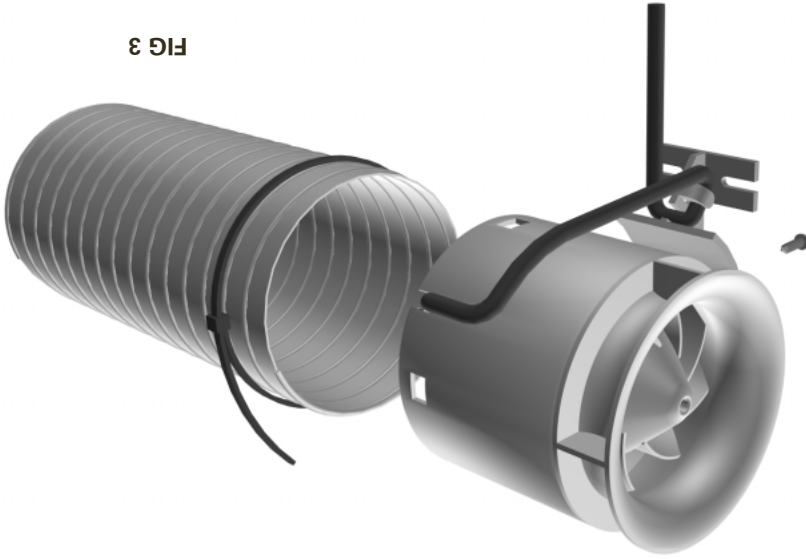

FIG 3
- Cut and fit ducting to fan by clamping duct between cradle and fan casing and also using the wraps. Silt duct to clear cable taking care to ensure that duct reinforcing wire does not contact cable. See Fig 3. Extend ducting fully and take care to install ducting with minimal changes in direction.
- Fix cradle to joist to complete installation as shown in Fig 3.